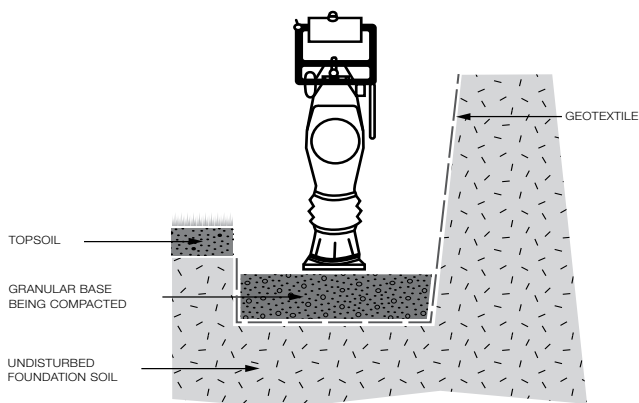

Figure 32. Base compaction
**Compaction** - Compaction is the most important factor in constructing a stable retaining wall. It is critical that the existing ground remains undisturbed and that the added base materials is compacted to 98% Standard Proctor Density. Although hand-tampers and power-tampers are both acceptable for compaction, power-compactors are strongly recommended for most projects (Figure 32).